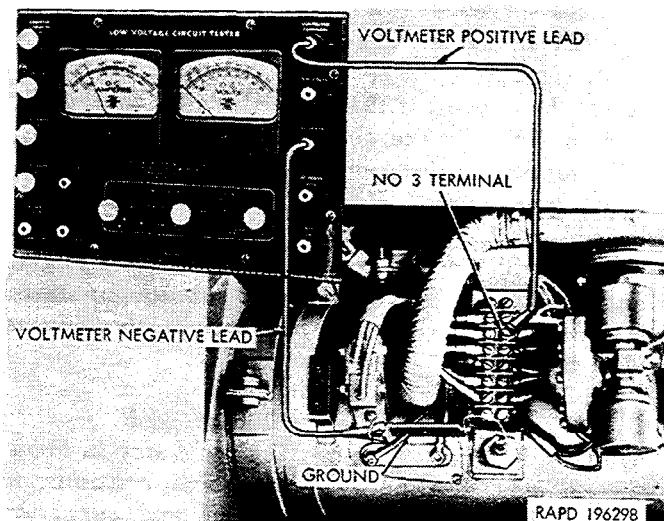

Figure 3-3. Checking for current at heater.
(1) Check for current at heater (fig. 3-3).